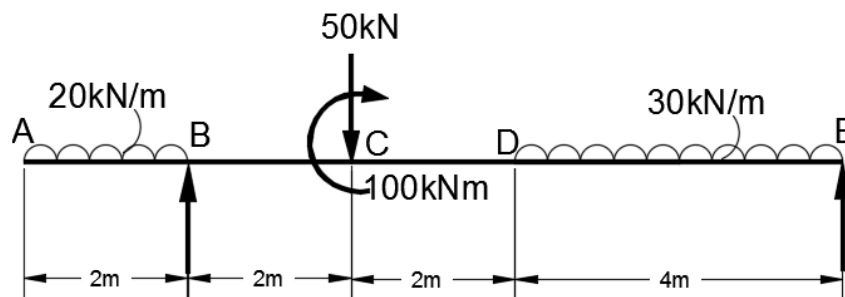

Fig. 1a
- 1A.** Draw the shear force and bending moment diagram for a beam subjected to forces as shown in Fig.1a. Also find the point of contraflexure and magnitude of maximum bending moment. **06**